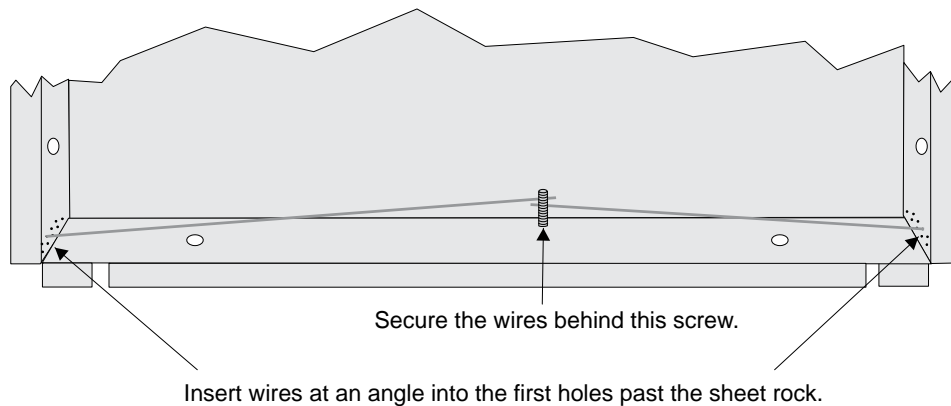

**Figure 4-12 Placement of Electrical Box for Flush Mounting**
1. Cut a hole in the sheet rock to the following dimensions: 8-1/4" W x 6-5/8" H. If an electrical box is used, the box must be 1-3/8" back from face of wall to accommodate the annunciator (see Figure 4-12).